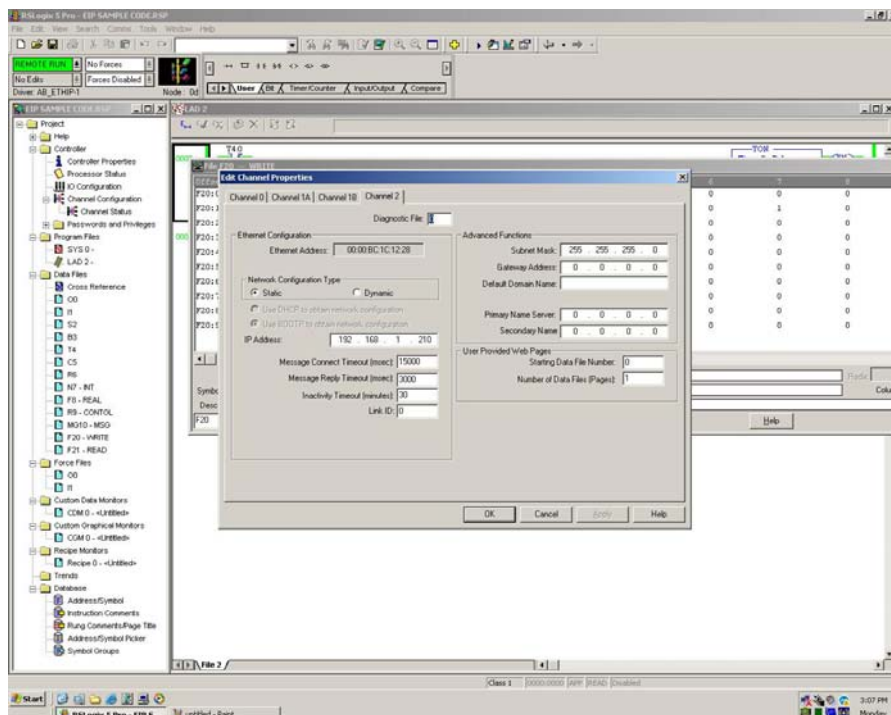

Figure 5
2. Setup the IP address for the PLC if needed (see Figure 5)